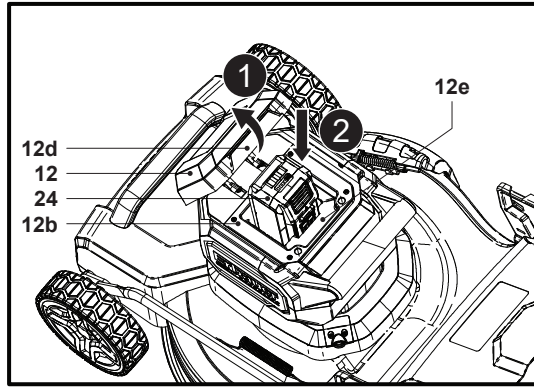

Fig. 7
1. Hold the lip (12d) and open the battery compartment cover (12) (Fig. 7, step 1).
2. Align the battery pack (24) with the sliding slots (12b) of the battery compartment (12e) and slide the battery pack (24) in to attach it (Fig. 7, step 2).